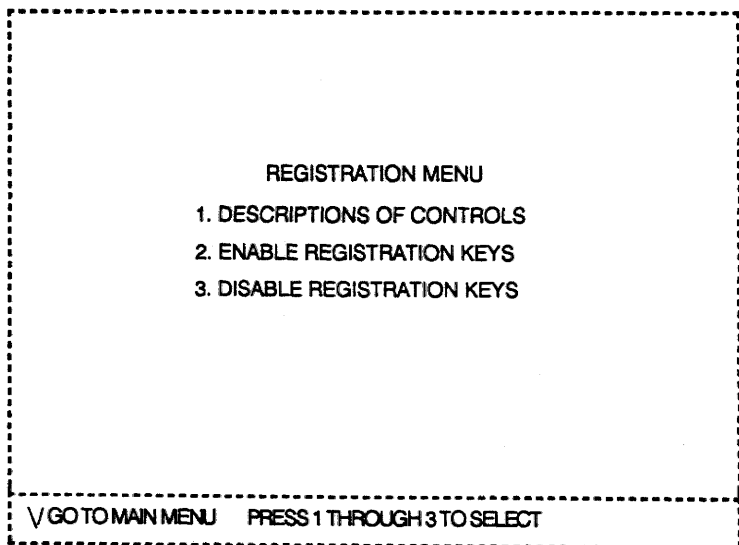

FIGURE 8-3. REGISTRATION MENU SELECTIONS.
3. REGISTRATION MENU: This selection will bring up another menu for your selection of the following subjects. Refer Section 8.1.5 and to Figure 8-3.